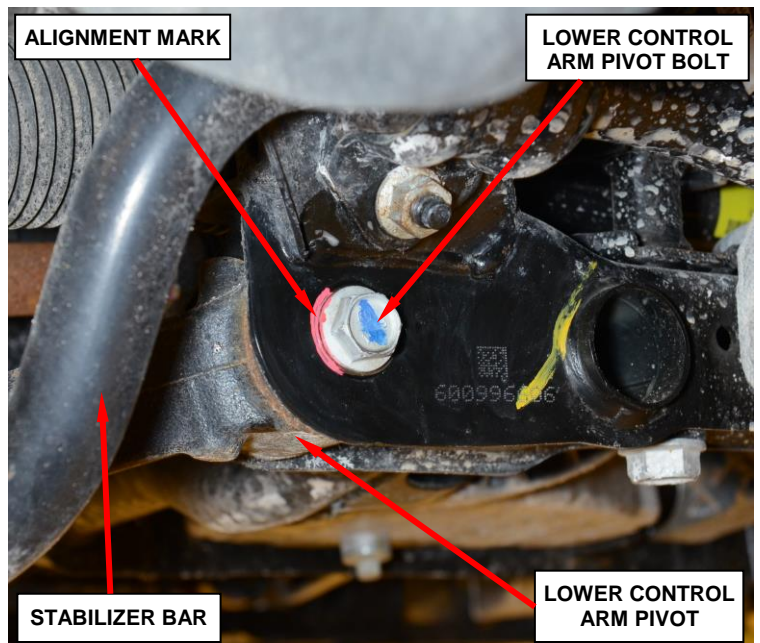

Figure 5 – Lower Control Arm Pivot Bolt Alignment Marks
- Using a paint marker, place an alignment mark on the lower control arm pivot bolt to the cradle (Figure 5).